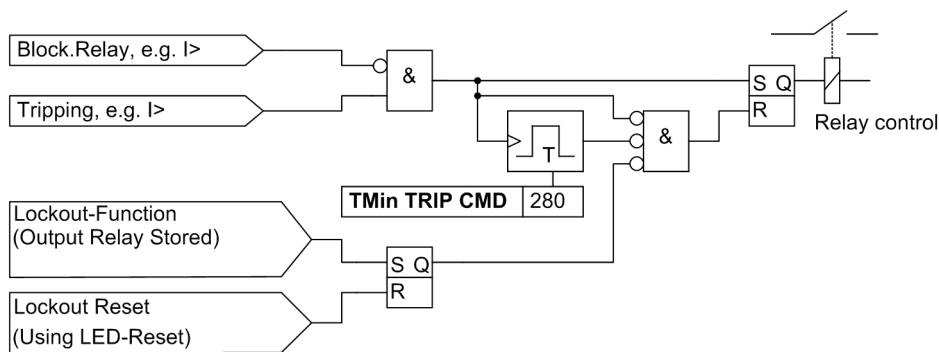

Figure 2-146 Terminating the trip signal, example of a protection function
- A trip command once transmitted is stored (see Figure 2-146). At the same time, the minimum trip command duration **T_{TRIPCOM MIN}** is started. This trip signal duration timer ensures the trip signal is transmitted to the circuit breaker for a sufficient amount of time, even if the function which issued the trip signal drops out quickly. The trip signal is only terminated after all protection Functions drop out AND the minimum trip signal duration expires.